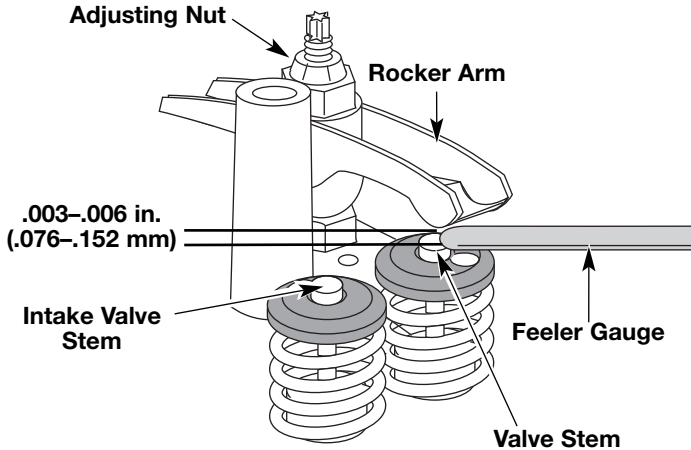

Fig. 33
- Turn the adjusting nut (Fig. 33) using a 5/16 inch (8 mm) wrench or nut driver.